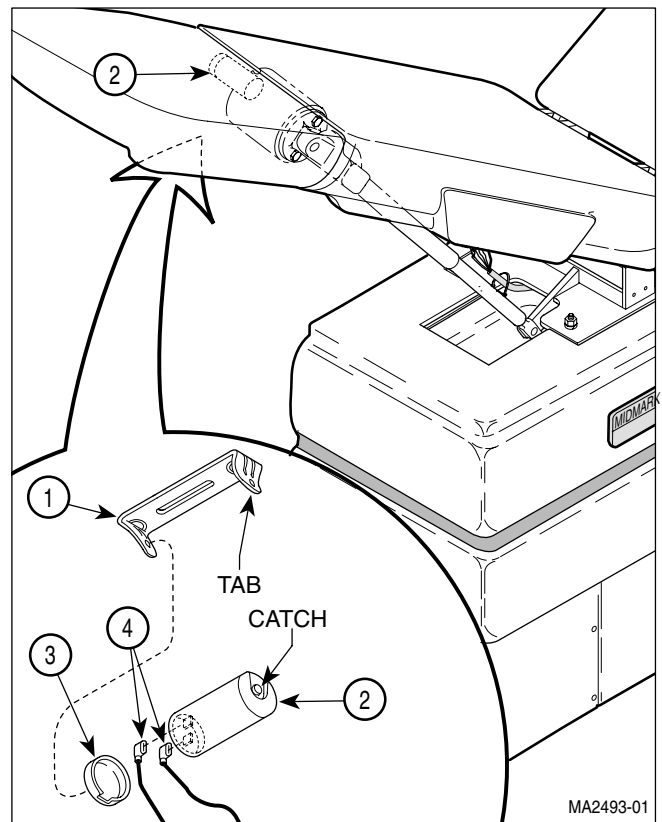

Figure 4-10. Tilt Capacitor
- (2) Unplug power cord from wall outlet.
- (3) Using a screwdriver, pry tab of mounting bracket (1, Figure 4-10) outward and separate tilt capacitor (2) from mounting bracket.
- (4) Remove capacitor cap (3) from tilt capacitor (2).
- (1) Connect one wire (4, Figure 4-10) to each terminal group of tilt capacitor (2).
- (2) Install capacitor cap (3) on tilt capacitor (2).
- (3) Position the bottom of tilt capacitor (2) on mounting bracket (1) and then push the top of the capacitor inward. Using a screwdriver, force the tab of the mounting bracket (1) down over the catch of the capacitor cap (3). Make sure tilt capacitor (2) is held firmly in place.
- (4) Plug power cord into wall outlet.